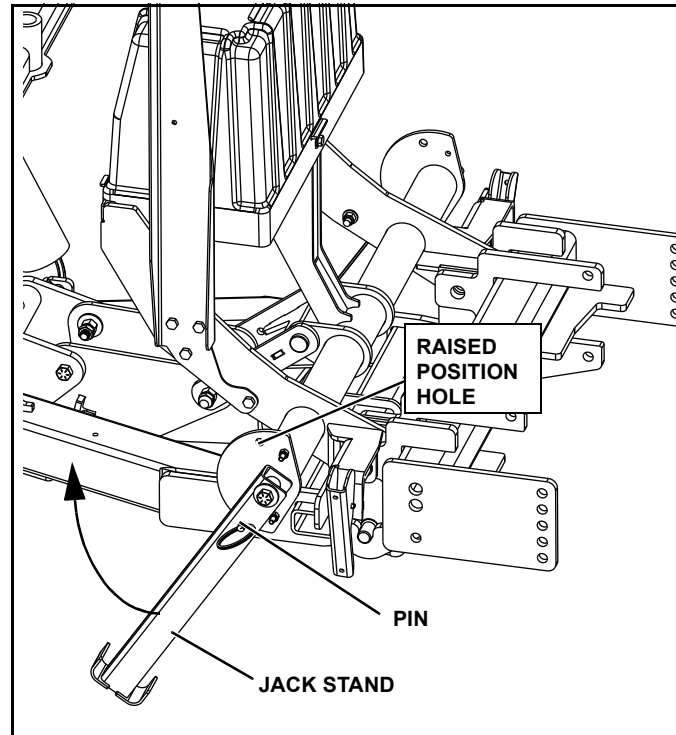

Figure 1-20
5. Pull ring on jack stand to disengage pin. Rotate jack stand towards raised position. Release pin and continue to rotate until jack stand is locked in raised position. Ensure pin is engaged in hole by rotating jack stand back and forth (See Figure 1-20).